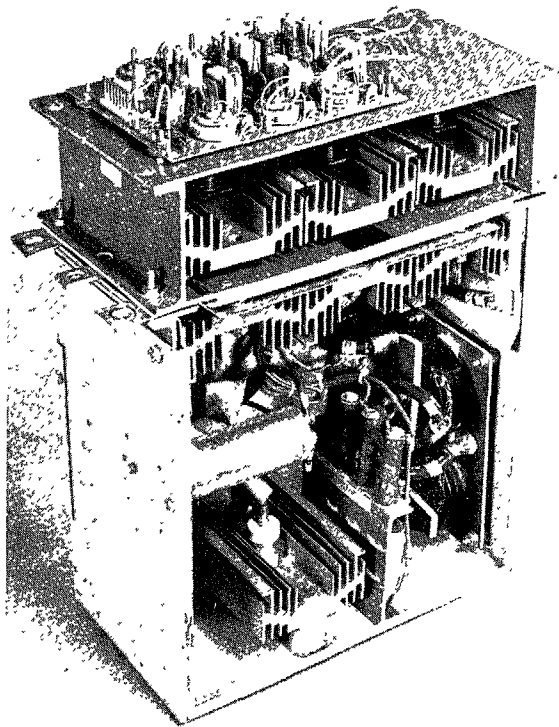
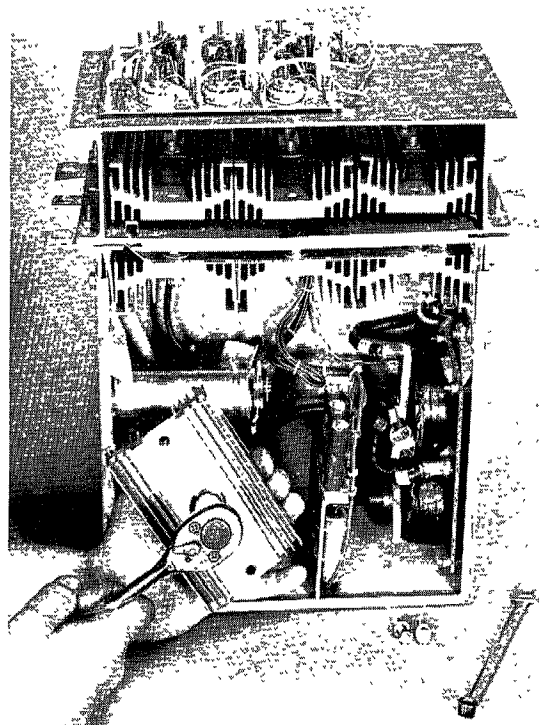

FIGURE 12
FIGURE 17
2. Stand the converter module on its back side on a table. The pulse transformer, printed circuit card should be on top. (Normally on the front of the module). See Fig. 12.
11. The gate and cathode leads of the replacement SCR should be connected to the pulse transformer card per the converter module elementary diagram. See Fig. 17.
2. Stand the converter module on its back side on a table. See Fig. 12.
3. Remove the P3 connection (Anode) to the Commutating Diode (DC).
4. Remove the two bolts that secure the (DC) diode heatsink to the converter module.
6. Remove the stud mounted diode from its heatsink. It is secured with a nut and lock washer. See Fig. 17.